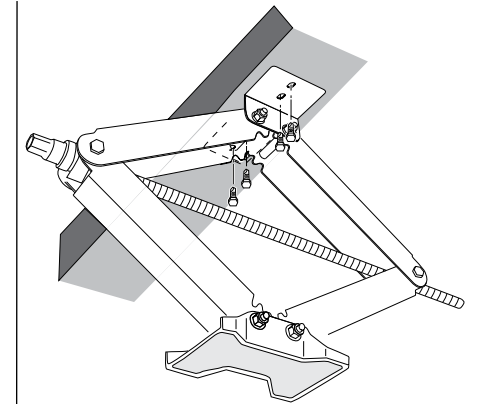

Figure 1
- Reposition jack. Use a 9/16" socket and ratchet to install the jacks to the vehicle frame using four bolts and four lock washers per jack. (Figure 1)